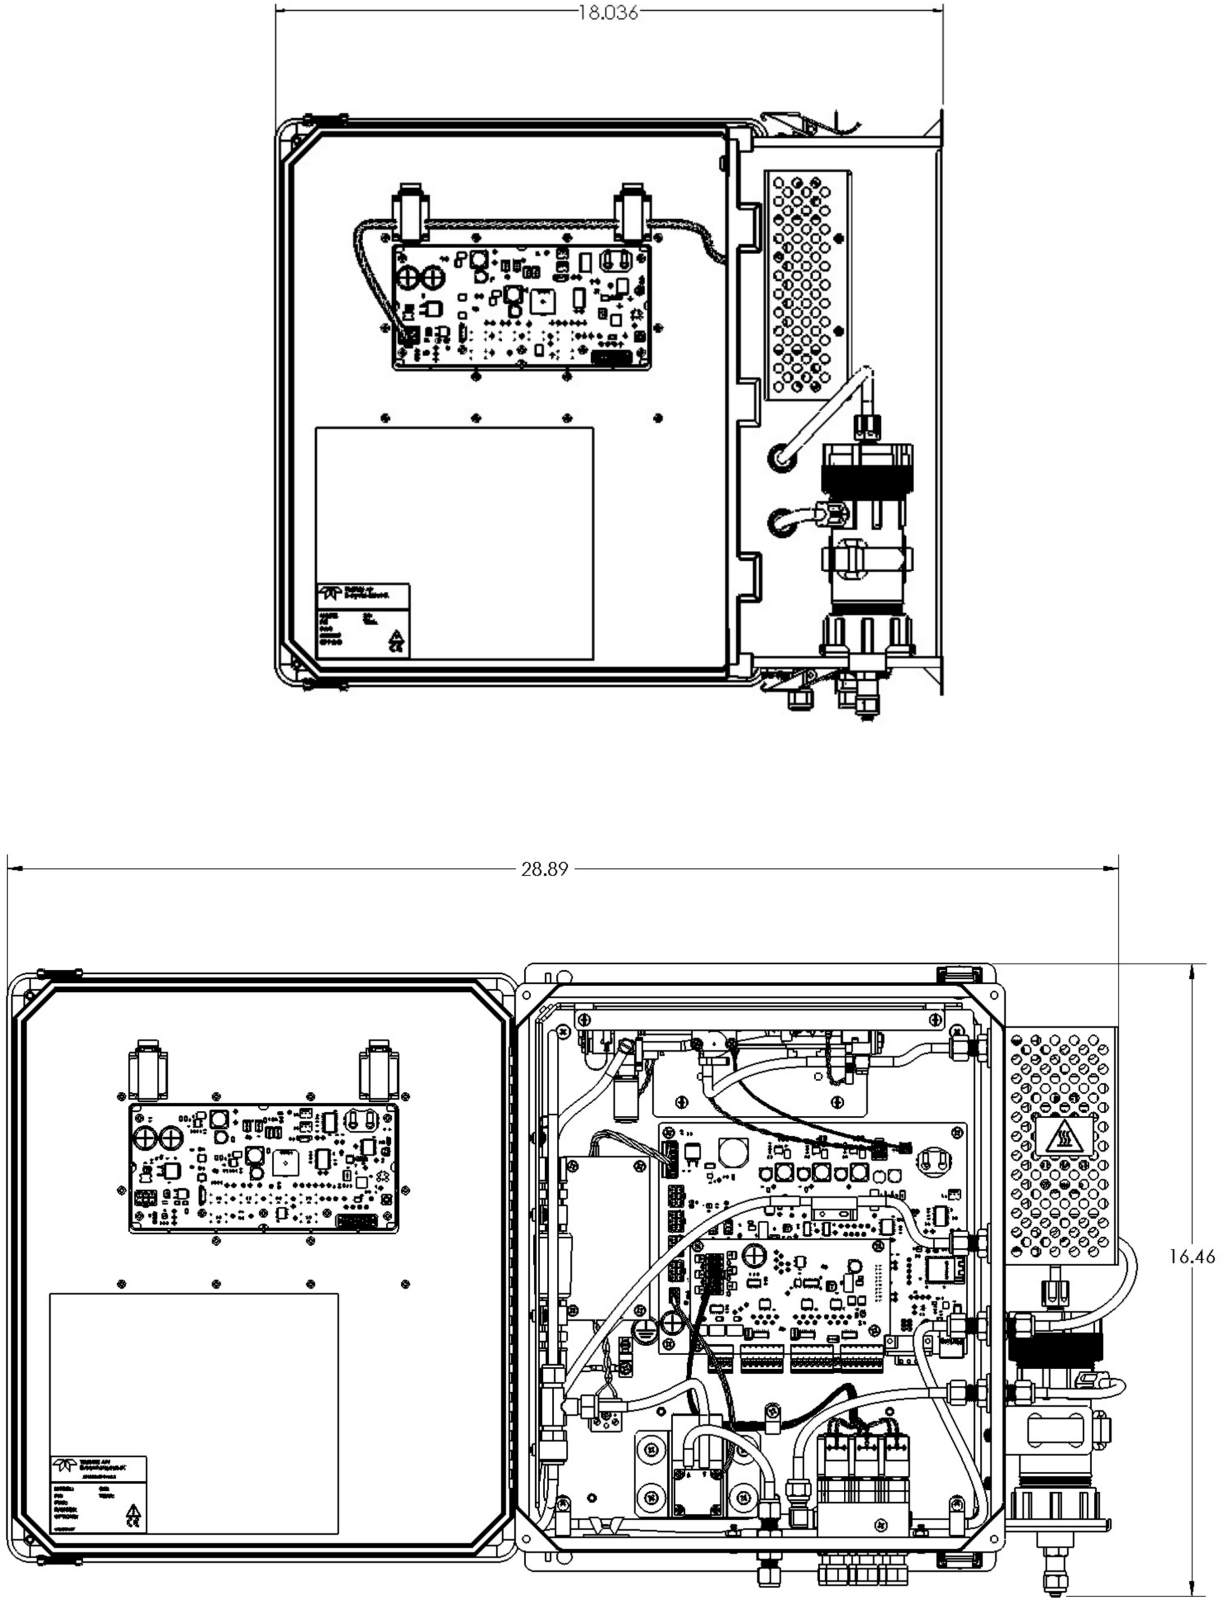

Figure 3-2. Mounting Hole Locations and Dimensions
- The illustrations in Figure 3-2 show the mounting dimensions and the locations of the four mounting holes, which are 0.32” (8.128 mm) diameter.